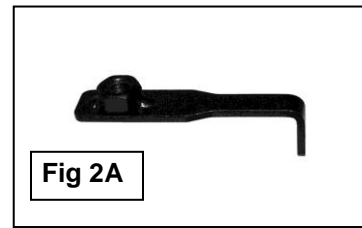

Fig 2A
3. Locate the two factory holes in the bottom of the frame towards the front of the vehicle. Insert (1) 10mm Nut Plate, **(Figure 2A)**, into the oval hole and line up the threaded nut with the forward round hole, **(Figure 2B)**. **NOTE:** Nut Plate and Support Bracket are not required on 2011-12 25-3500 models.